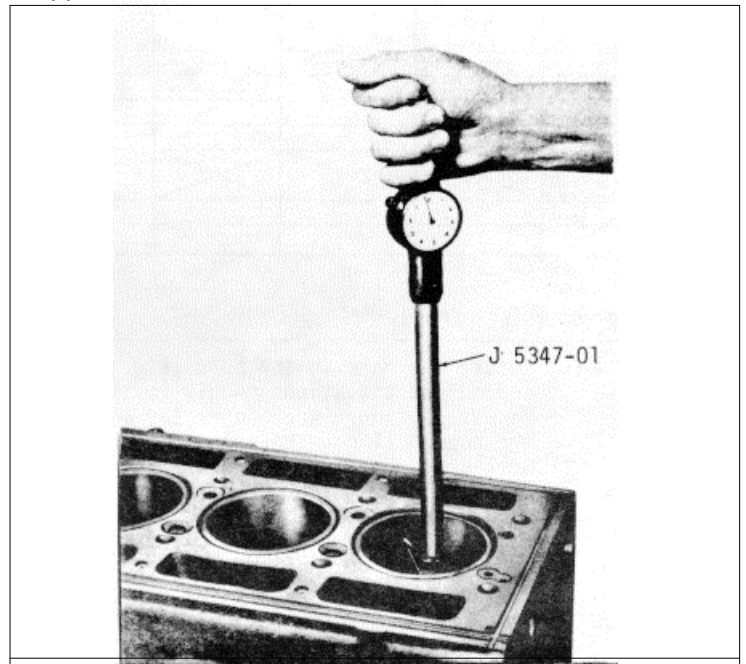
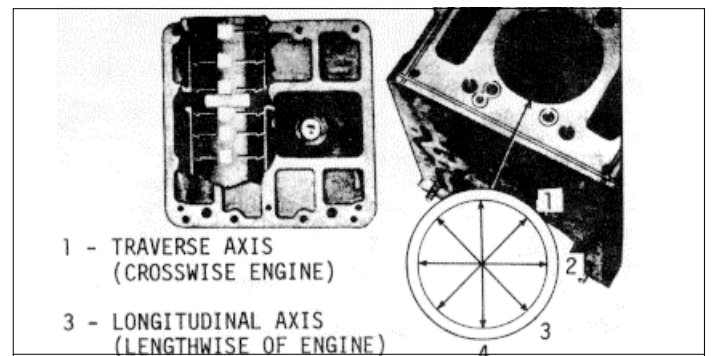

Fig. 12
Fig. 13
- (b) Measure the entire bore of each cylinder with cylinder bore gauge J 5347-01 (Fig. 12) which has a dial indicator calibrated in .0001" increments. The standard block bore is 4.6260" to 4.6275" (cast iron block). Place the bore gauge in the master ring gauge J 8386-01 which has an I.D. of 4.6270" and set the dial to zero. Take measurements on the cleaned-up surface only at positions A,B,C,D,E and F in the bore on axes 450 apart (Fig. 13). Read the measurements from the zero mark on the gauge. The readings may be recorded on a form similar to the one illustrated in Fig. 14.